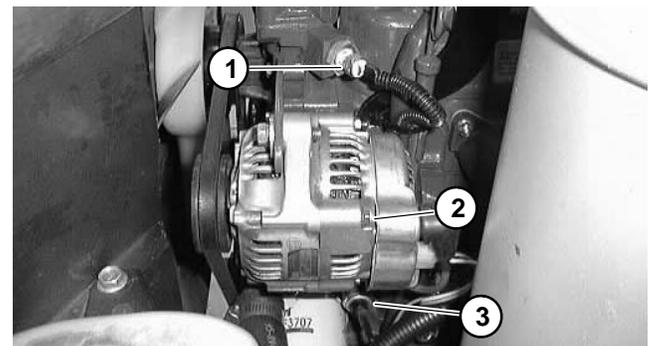

Figure 14
D. High temperature shutdown switch, alternator, and low oil pressure switch (Fig. 14).
- E. High temperature shutdown switch, alternator, and low oil pressure switch (Fig. 14).